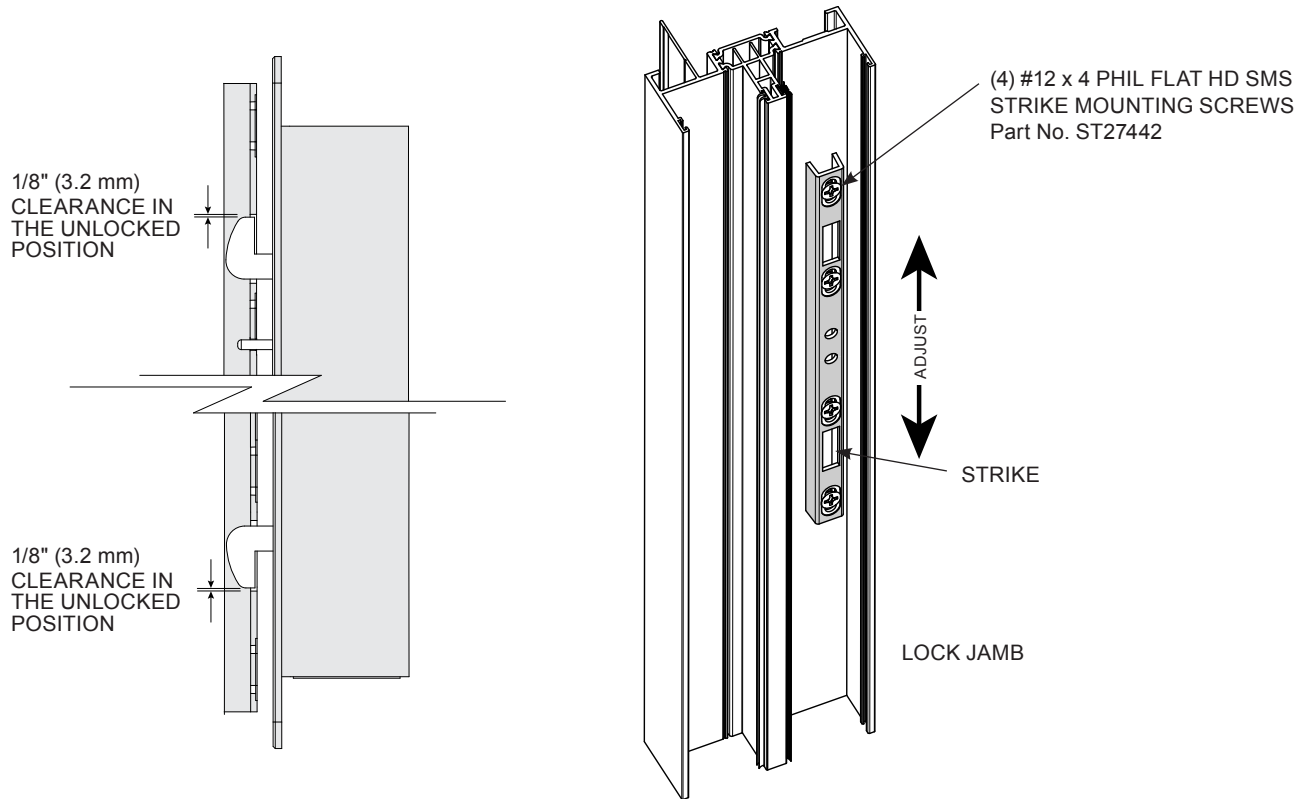

FIG. 33
2. Adjust the strike up to 1/4" (6 mm) vertically to compensate for any misalignment. Loosen the (4) flat head screws enough to allow you to tap the strike up or down. Tighten the screws securely when complete. (FIG. 33)